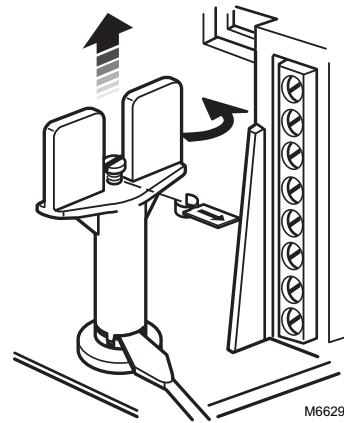

Fig. 5. Removing Spring Retaining Clip and Releasing Manual Spring Handle.
Use a screwdriver to lift and release manual spring handle (Refer to Fig. 5).
7. Remove the manual spring handle retaining clip, and lift and release the handle (Refer to Fig. 5). The easiest way to perform this operation safely is to:
- b. Wedge a small, flat-bladed screwdriver under the manual spring handle and pry up the handle (Refer to Fig. 5).